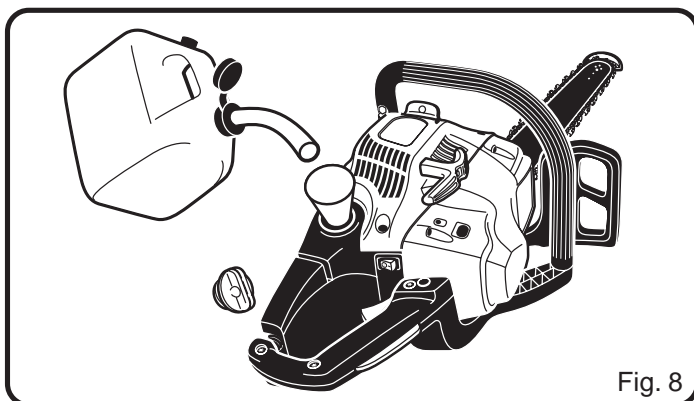

Fig. 8
3. Carefully pour the fuel mixture into the tank. Avoid spillage. *See Figure 8.*